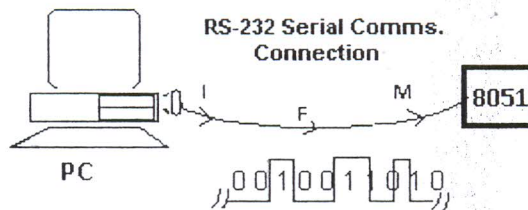

Figure 1: Serial interfacing
- (c) Figure 1 shows the serial communication between a computer and microcontroller 8051. Write program for 8051 to receive characters M, F and I serially at baud rate 4800. Use serial mode 1 and crystal clock 11.0592Mz.